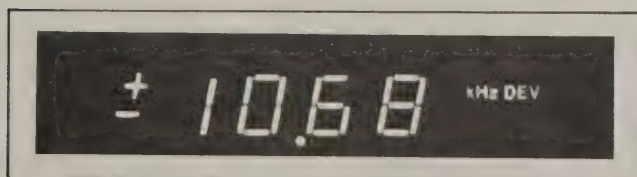

Figure 1-2 Typical Modulation Display
b. **Digital Display.** The Model 82AD presents frequency modulation or amplitude modulation on a four-digit display, providing unprecedented resolution and accuracy for modulation measurements. (See Figure 1-2.)